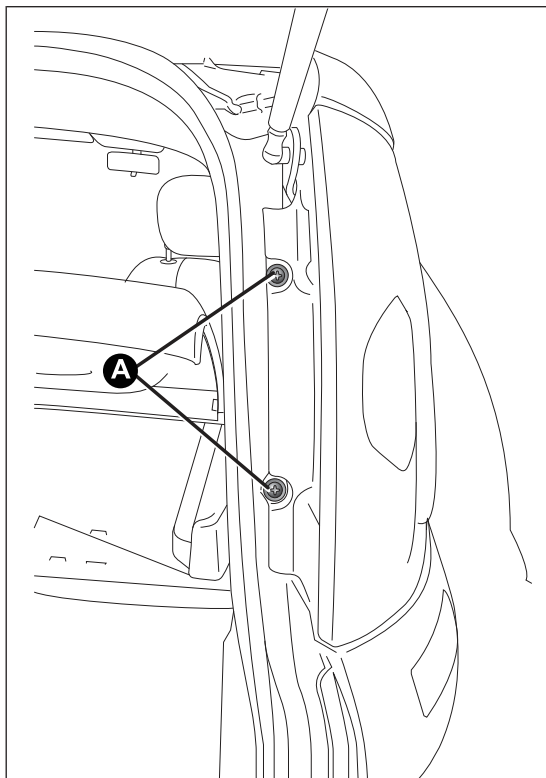

fig. 133
- ☐ slacken the two screws fig. 133 from their seats, pull gently outwards until releasing the whole headlight from the two clips (press-fitted D fig. 133) and release the connector;